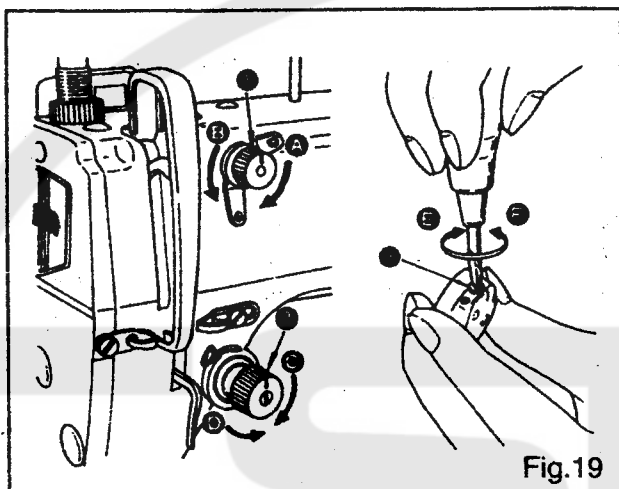

Fig.19
- 1) The machine runs at low sewing speed when you lightly depress the front part of the pedal. ①
- 2) The machine runs at high sewing speed when you further depress the front part of the pedal. ②
- 3) The machine stops (with its needle up or down) when you reset the pedal to its original position. ③
- 4) The machine trims threads when you fully depress the back part of the pedal. ④
15.THREAD TENSION (Fig.19)